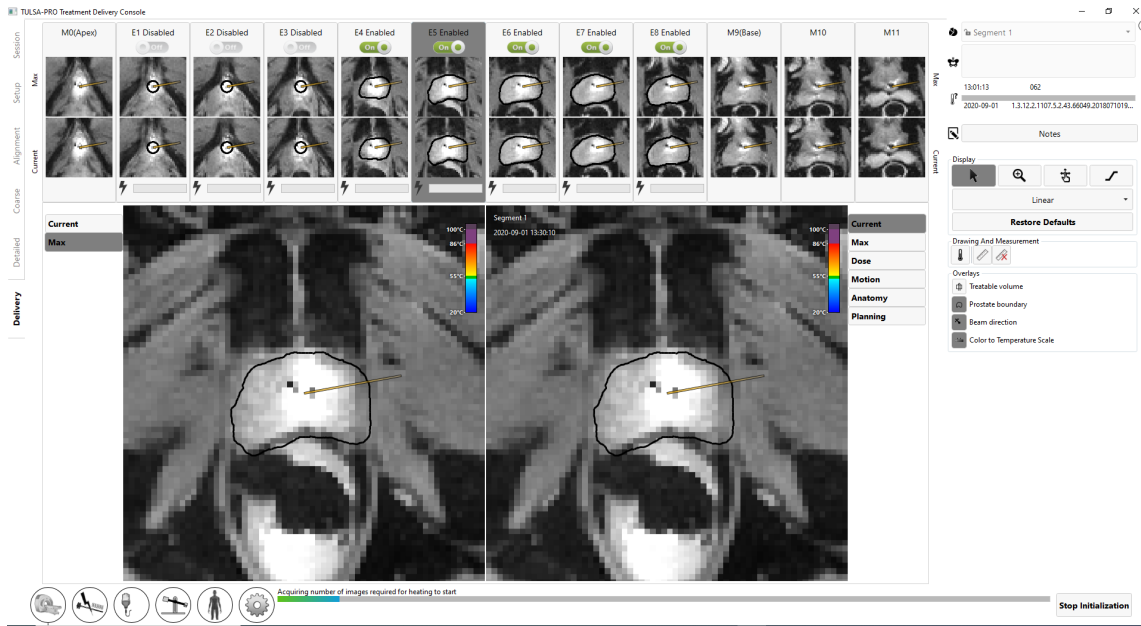

Figure 40: Treatment Initialization state
2. Radiologist: Click **Start treatment** on TDC. It will prompt you to verify the core body temperature using an external temperature measurement device before proceeding (10). Enter the temperature in degrees Celsius and click **Confirm**. The TDC will go into **Treatment Initialization** state and is now ready to receive thermometry images (Figure 40).